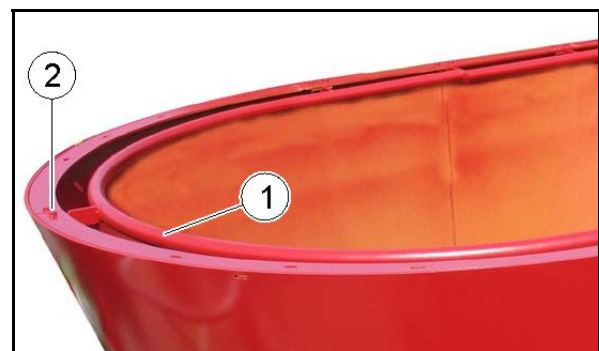

Fig. 24
- an inner overflow ring (Fig. 24) for low overhead clearances, screwed below the top edge of the container.